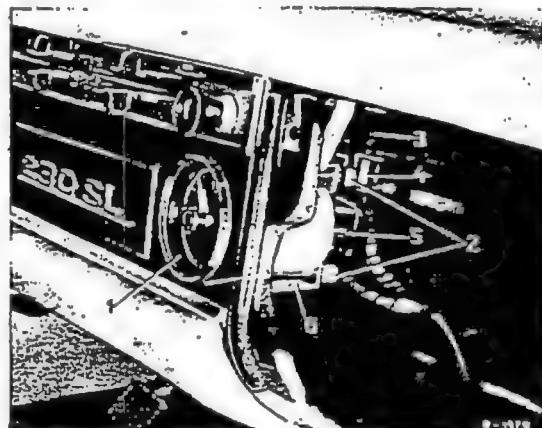

Fig. 54-12/2
2. Unscrew the two knurled nuts (2) for the attachment of the clock (1); detach the cable (3) from the retainer (4) since the cable would be in the way during this operation (Fig. 54-12/2).
3. Pull out the plug (5), remove the bracket (6), and pull the clock out of the instrument panel.